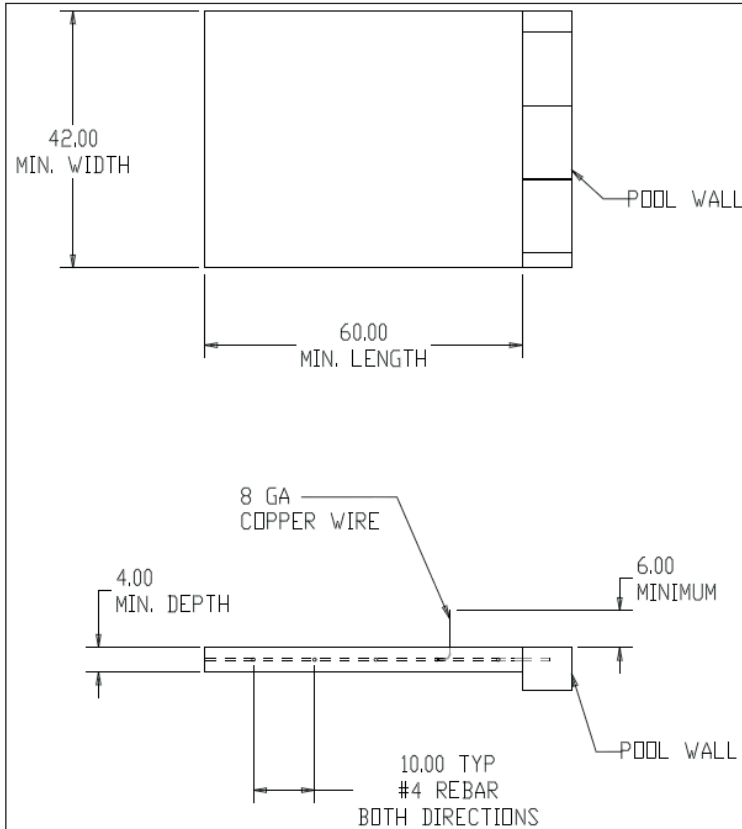

Fig 2: Minimum Deck Requirements
- Verify that the pool deck meets the minimum requirements above, also see Fig.2. If the deck does not meet these requirements, then the deck needs to be cut and replaced with a new slab that meet these requirements. The new slab needs to be reinforced with rebar and adhered with epoxy into the remaining existing deck. Simpson SET epoxy is recommended or equivalent for installation.
- 3 Due to Local Electrical Code, it maybe necessary to Bond the Mounting Base to the pools Bonding Grid with 8ga Copper Wire. See Fig. 2 & 3 for location. Check your Local Electrical Code for proper Bonding.